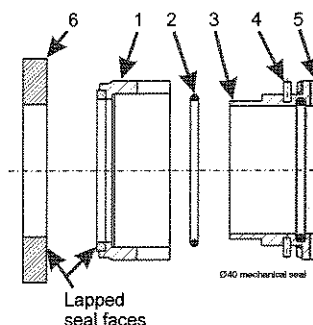

Figure 20 Type 1 single mechanical seal
The rear wear plate holds the seal seat retained by a circlip (item 6 in Figure 20). Once the wear plate has been removed the remainder of the mechanical seal is left exposed on the shaft.
1) CD75, CD80D & CD80M, CD100M, CD103M, CD150M, CD200M, CD225M, CD250M, HL80, HL100M, HL125MS, HL150M & HL150MHD (Figure 20).
Inspect all items for wear. The seal face for type 1, 2 & 3 seals (item 6 in Figure 20; item 12 in Figure 21 or Figure 22) is double sided. It may be reversed when refitted to provide a second wearing face. Replace any damaged parts and renew all O-rings.
- 1) CD75, CD80D & CD80M, CD100M, CD103M, CD150M, CD200M, CD225M, CD250M, HL80, HL100M, HL125MS, HL150M & HL150MHD (Figure 20).